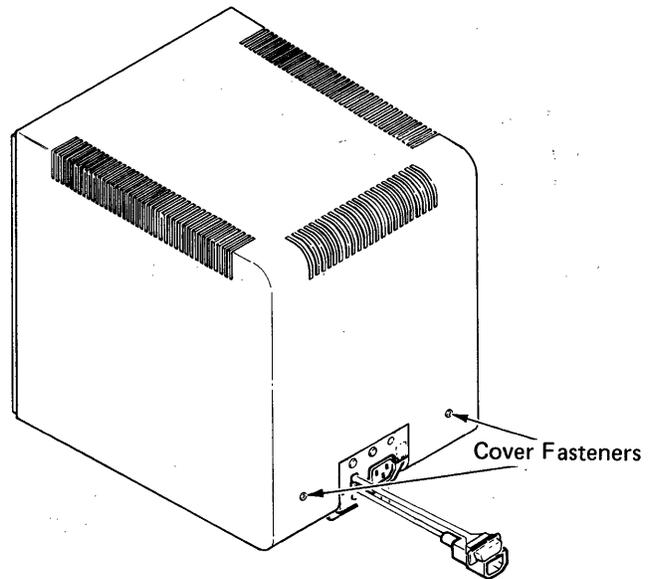

Figure 4-19. Quarter-Turn Cover Fasteners
2. Release the quarter-turn cover fasteners in the back of the display module. (See Figure 4-19.)